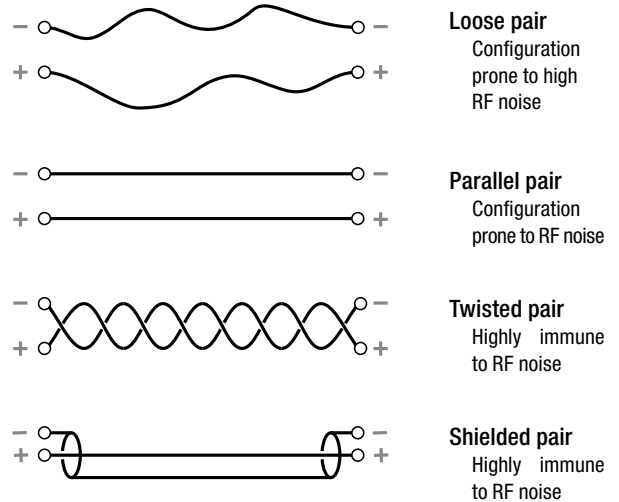

FIGURE 5: Cabling configuration.
- ▶ set the cabling for RF noise rejection: shielded or twisted cables are advisable configuration (ref. FIGURE 5);